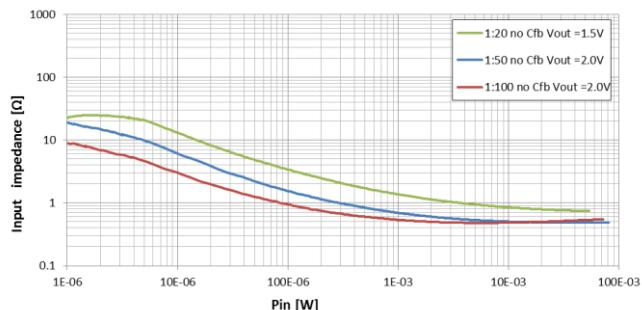
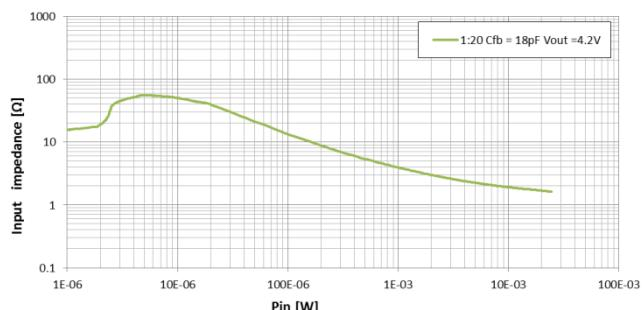

Figure 5-7 Input Impedance vs Power No C_{FB}
Figure 5-13 Input Impedance vs Power C_{FB} 18 pF
The TEG electrical impedance and the EM8900 input impedance have to match as shown in Figure 5-7 to Figure 5-13. As a function of the operating power range, the TEG electrical impedance should be selected as closely as possible to the value shown.
4. According to the Figure 5-13, the ideal TEG electrical resistivity is about 4Ω at 1 mW.
4. According to the Figure 5-7, the ideal TEG electrical resistivity is about 2Ω at 20 μ W.